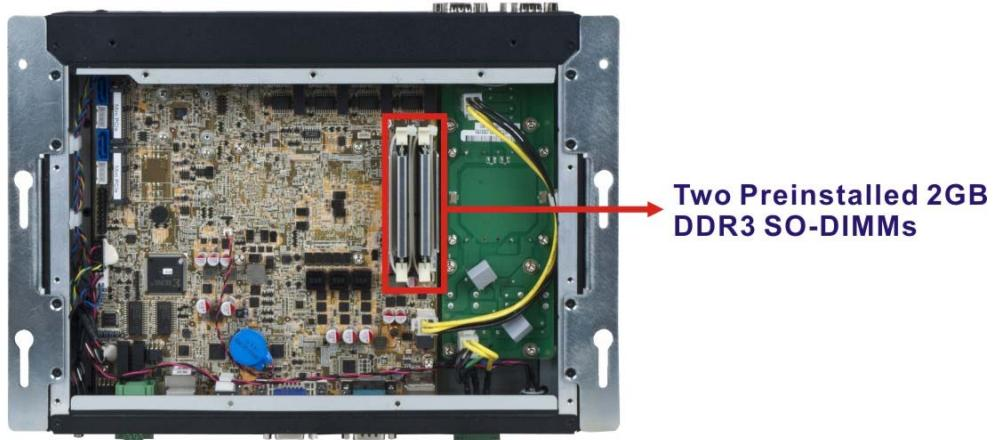

Figure 6-3: SO-DIMM Locations
**Step 3:** Locate the SO-DIMM. (Figure 6-3).